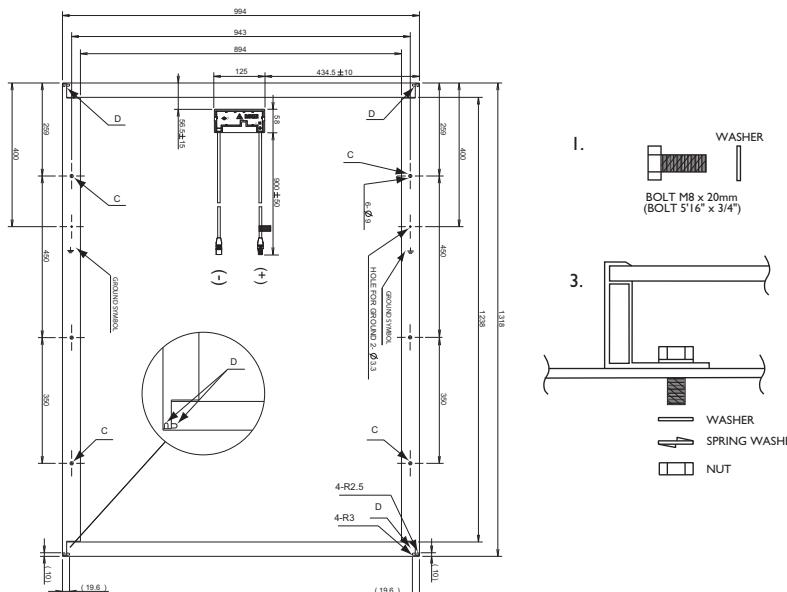

Figure 1
Mounting Using Frame Bolt Holes (Figures 1 & 2)
The modules may be fastened to a support using the bolt holes in the bottom of the frame at location "C", as shown in Figure 1 (back view of the module) and Figure 2 (mounting detail). The module should be fastened with four (4) M8 (5/16") bolts. Take care during installation to not block the drain holes (D) shown in Figure 1.
The modules may be mounted using clips (clamps) designed for solar modules as shown in Figures 3 and 4. Note that the clip positions are important – the clip centerlines must be between 3.2" (81mm) and 13" (330mm) from the end of the module. The module must be supported along the length of the long edge, and should overlap the array rail by at least 0.4" (10mm). Note that the mounting clips should meet the minimum dimensions (catch width of 0.2" (5mm) and length of 1.2" (30mm)) as shown in Figure 3. The array rails must support the bottom of the modules and must be continuous pieces (no breaks in the rail). Take care during installation to not block the drain holes (D) shown in Figure 1.
The modules may also be mounted using clips on the long sides of the module when the array rails are perpendicular to the long sides, as shown in Figure 5. The clip centerlines must be between 3.2" (81mm) and 13" (330mm) from the ends of the module. Note that the mounting clips should meet the minimum dimensions (catch width of 0.2" (5mm) and length of 1.2" (30mm)) shown in Figure 3. The array rails must support the bottom of the modules and must be continuous pieces (no breaks in the rail). Take care during installation to not block the drain holes (D) shown in Figure 1.